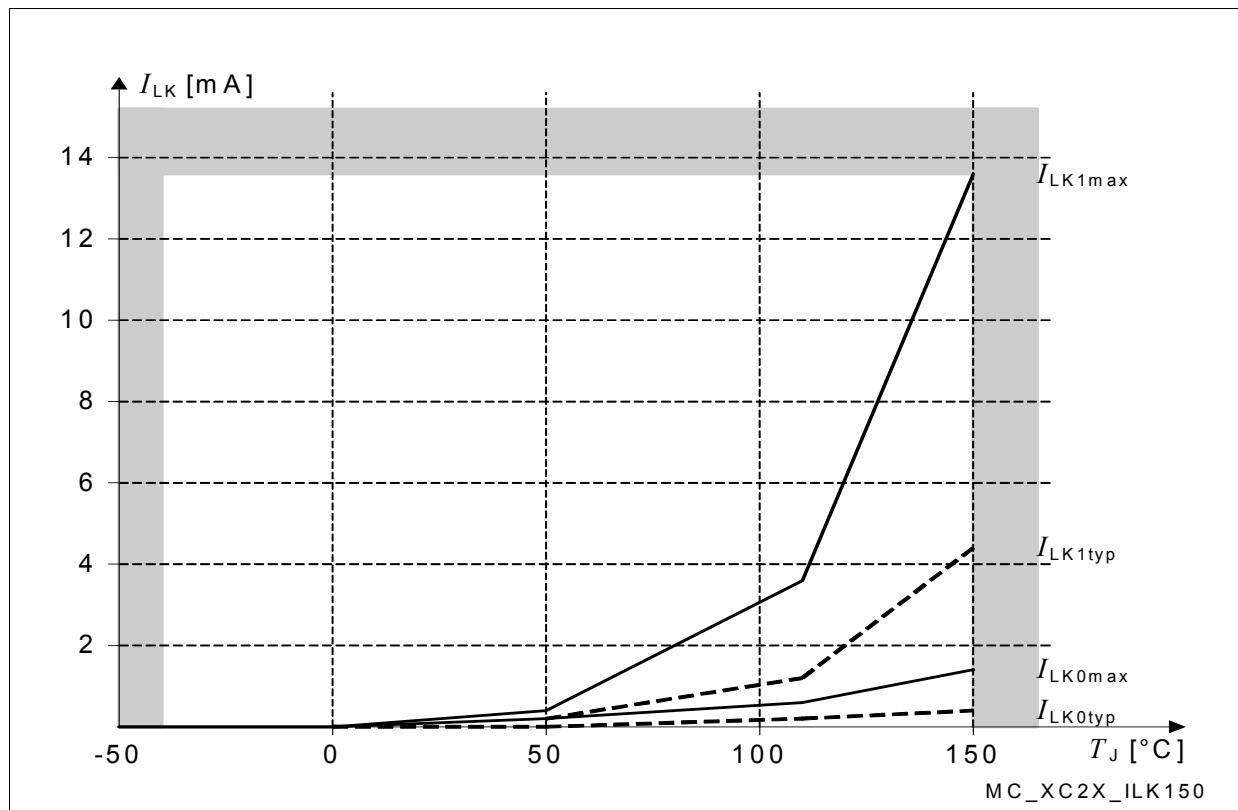

Figure 14 Leakage Supply Current as a Function of Temperature
- 2) The supply current caused by leakage depends mainly on the junction temperature (see Figure 14) and the supply voltage. The temperature difference between the junction temperature  $T_J$  and the ambient temperature  $T_A$  must be taken into account. As this fraction of the supply current does not depend on device activity, it must be added to other power consumption values.